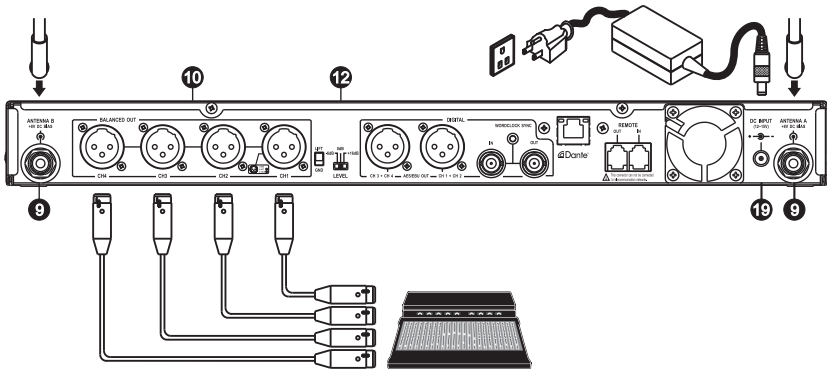

Fig. 2
## II. Receiver Installation. Fig. 2
- (A) Each channel signal output can be connected to the mixer or amplifier's MIC IN jack by using a cable with balanced XLR connector. Fig. 2